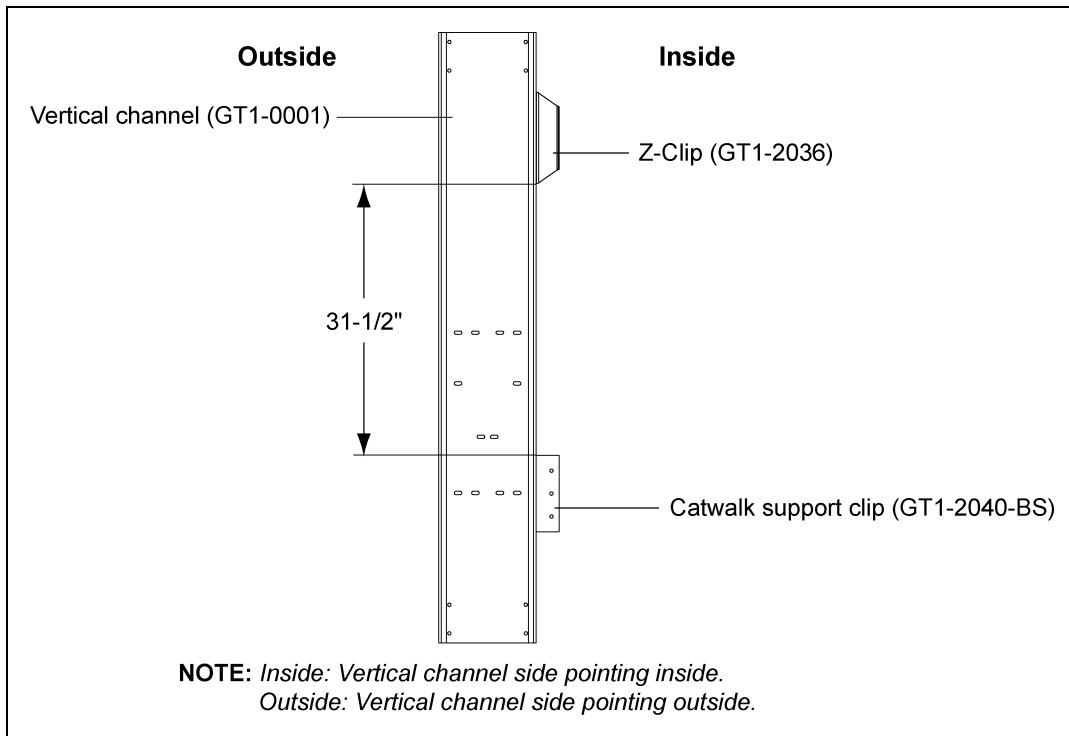

Figure 5C
2. The distance between the Z-clip and support clip for 24' inside catwalk is 31-1/2". (See Figure 5C.)